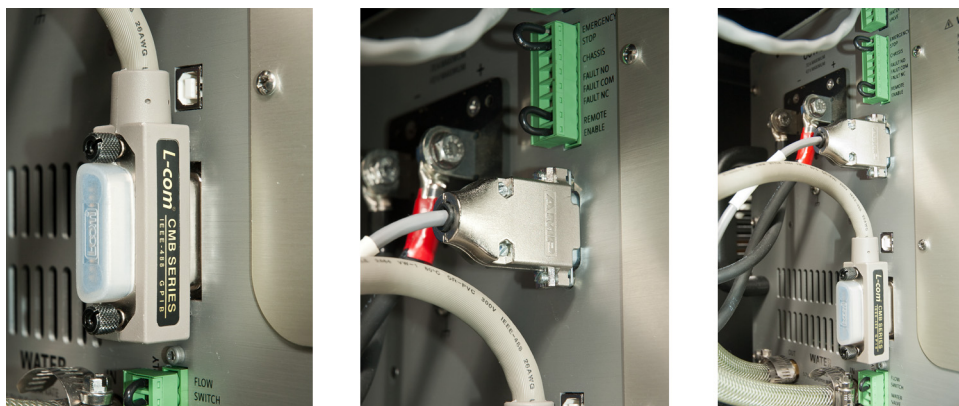

FIGURE 3-18 Left: Connection for the communication cable; Middle: Connection for the D-15 cable; Right: Context for the location of both cables
- IEEE-488 magnet power supply communication cable: attach this cable to the IEEE connector on the rear of the magnet power supply (FIGURE 3-18).
- D-15 analog magnet program cable: attach this cable to the D-15 connector on the rear of the magnet power supply (FIGURE 3-18).